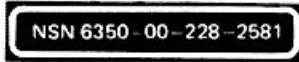

Figure 1-3. Identification Plate, Processor
a. Identification Data. Two plates, identification and NSN, are mounted inside each chassis. Plates for the Processor are shown in figure 1-3 and for the Transceiver in figure 1-4.